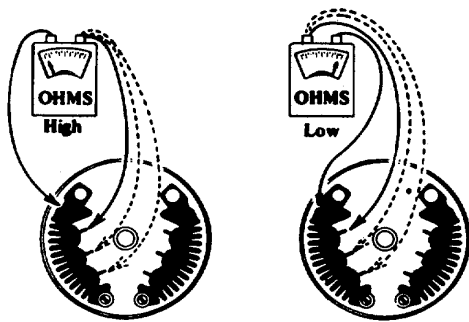

FIG. 11 FIG. 12
1. Connect the positive lead of the diode tester, ohmmeter or test lamp to the positive heat sink and touch the negative test lead to each of the three diode terminals. A high resistance should be indicated and if a test lamp is being used, it should not light. If any of the three diodes shows slow resistance or the test lamp lights, the diode is shorted. (See Figure 11.)